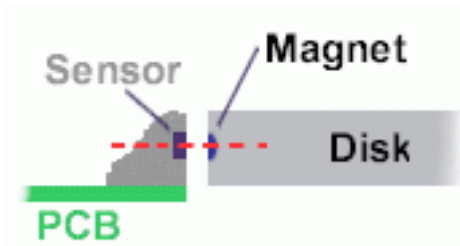

Figure 2 Ensure correct alignment of magnet disk and sensor.
- Rotate the disk in rotation direction until the S-marked Magnet is close to the sensor (arrow (1)).
- Take care that the magnets in the disk are approximately in the same height as the sensor, see figure 2 on the next page.